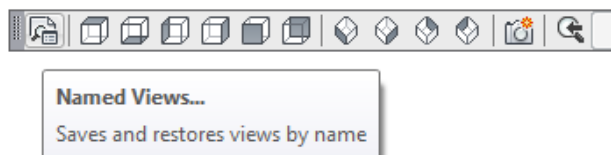

Figure Step 15A
Step 15 Enter the VIEW command using either the toolbar or ribbon. This will open the View Manager dialogue box. (Figure Step 15A and 15B)